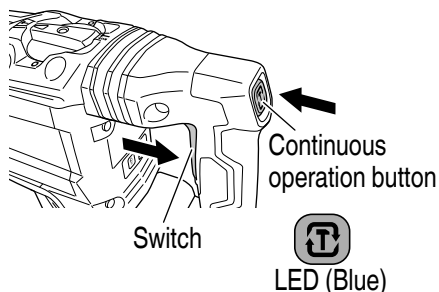

Fig. 31
7. Using the Continuous operation button (Fig. 31)